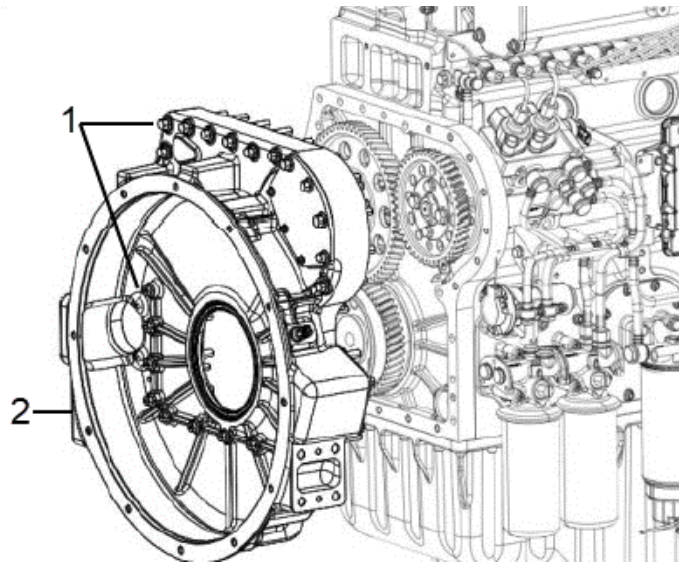

Figure 110.
6. Apply Loctite 242 sealant coated at the threads of the flywheel housing bolts (Figure 110, Item 1).